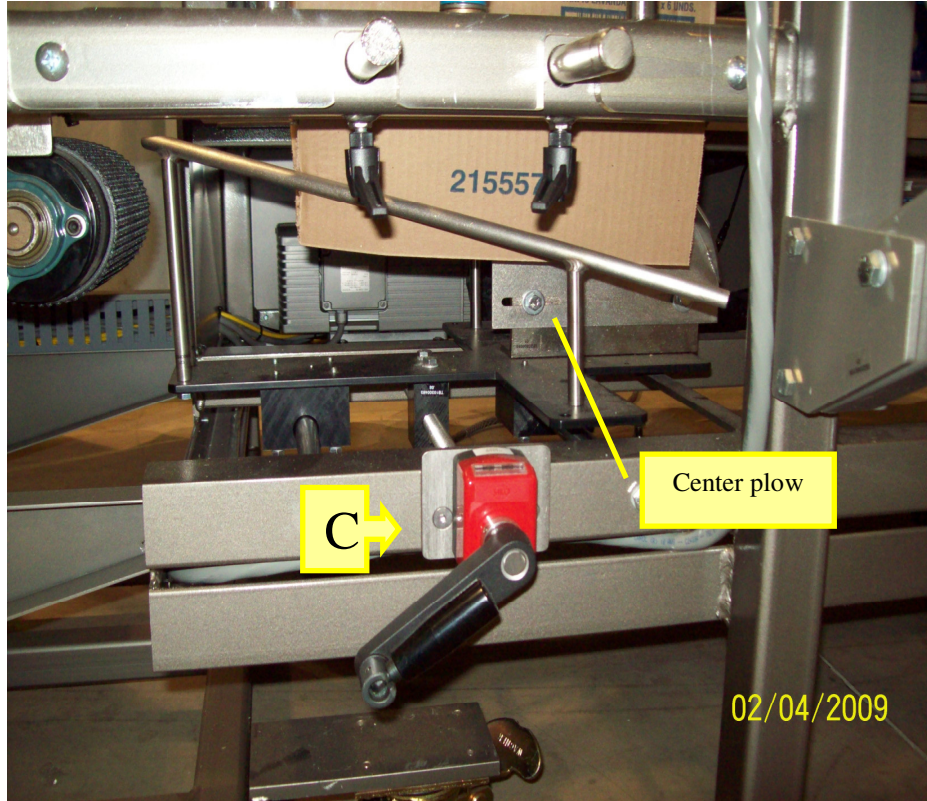

Figure 7 - Center Plow Adjustment (C)
4. Set case center plow (C) to case width (See figure 7) by using the crank handle until the indicator shows the appropriate measurement.